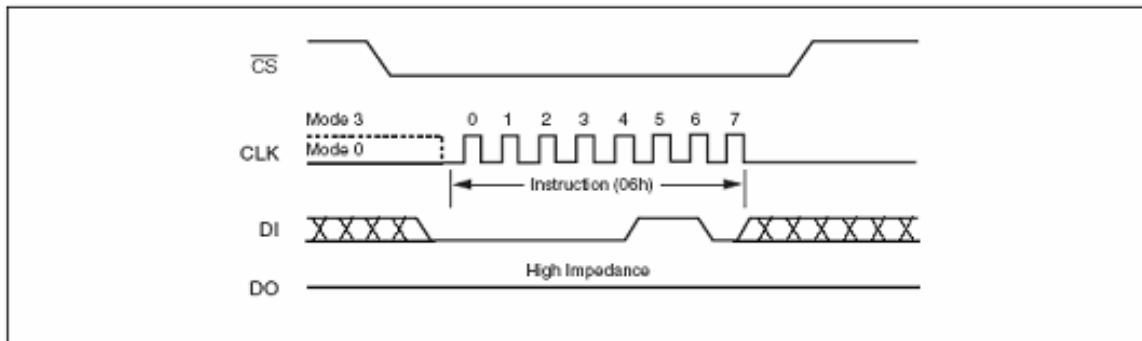

Figure 5. Write Enable Instruction Sequence Diagram
The Write Enable (WREN) instruction (Figure 5) sets the Write Enable Latch (WEL) bit. The Write Enable Latch (WEL) bit must be set prior to every Page Program (PP), Sector Erase (SE), Bulk Erase (BE) and Write Status Register (WRSR) instruction. The Write Enable (WREN) instruction is entered by driving Chip Select (CS#) Low, sending the instruction code, and then driving Chip Select (CS#) High.